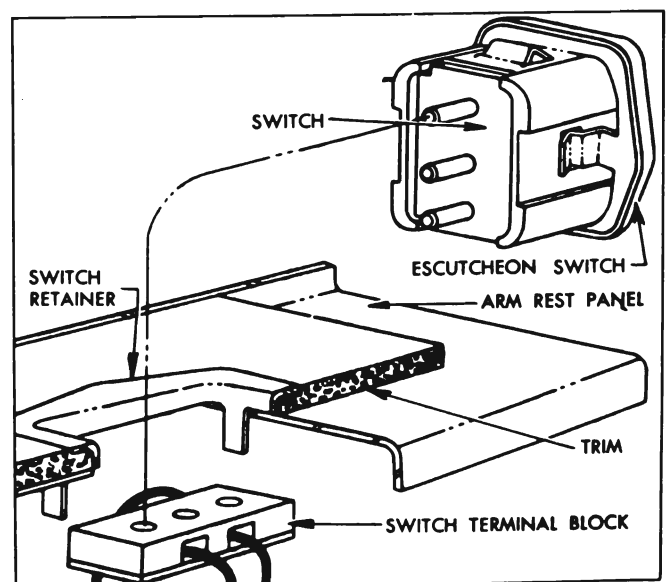

Figure 13-229—Rear Quarter Window Switch Attachment
5. To install, reverse removal procedure. Fig. 13-229.